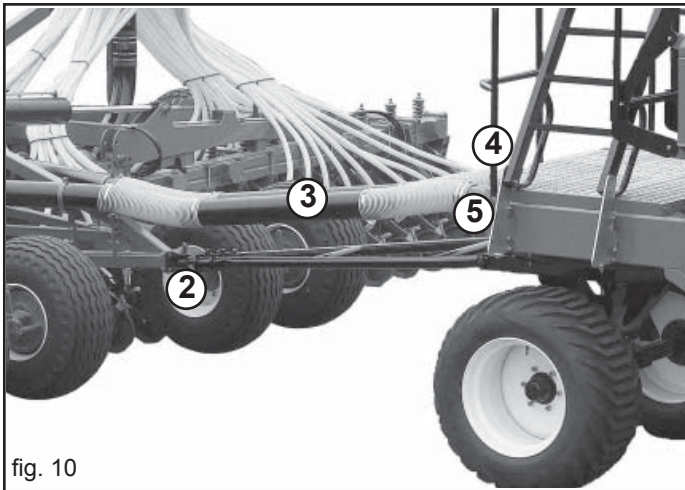

fig. 10
Behind the sowing machine, hook the AIR CART to the towing device using the break pins (2, Fig. 10), connect the seed transport pipes (3), the electrical system (4) and the hydraulic system (5).